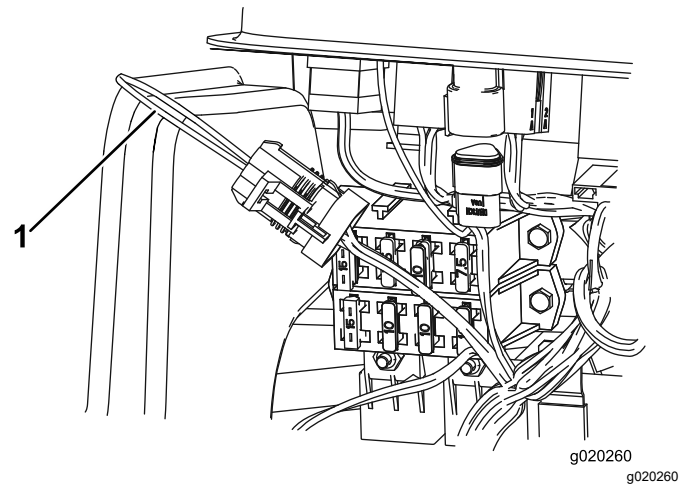

Figure 41
3. Locate the wire harness and loop-back connector (Figure 41).